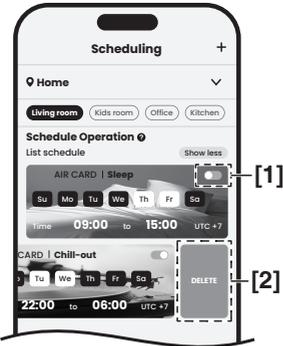
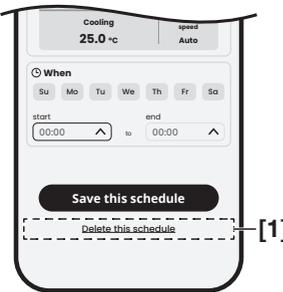

Fig. 4
Fig. 5
- Tap [1] on the screen to left for turn off the schedule. Fig. 4
- Swipe left [2] to delete schedule Fig. 4 or tap [1] Delete this schedule on the screen to delete it. Fig. 5